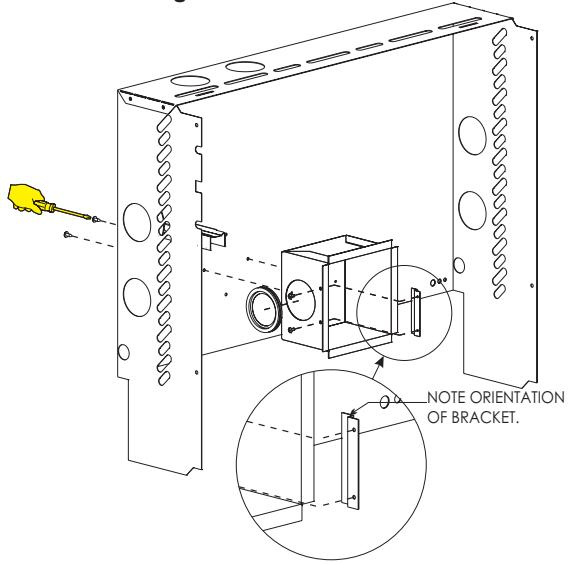

Figure 6
9. If installing the wall furnace in a direct-vent configuration, assemble the pipe stop bracket to the inside of the air box and install the blue intake connector gasket to the vent transition box. Attach the vent transition box to the rear shroud using two #8-18 x 1/2 Phillips head screws provided. Make sure that the vent transition box opening is aligned with the knock out. **See Figure 6.**